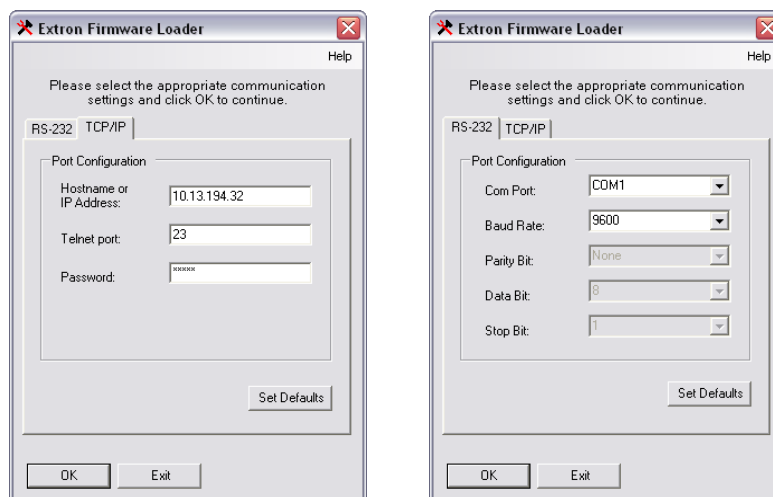

Figure 5-20 — Firmware Loader port selection and configuration
4. Click **Tools > Update firmware**. The Extron Firmware Loader port configuration window appears (figure 5-20).